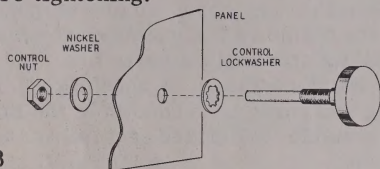
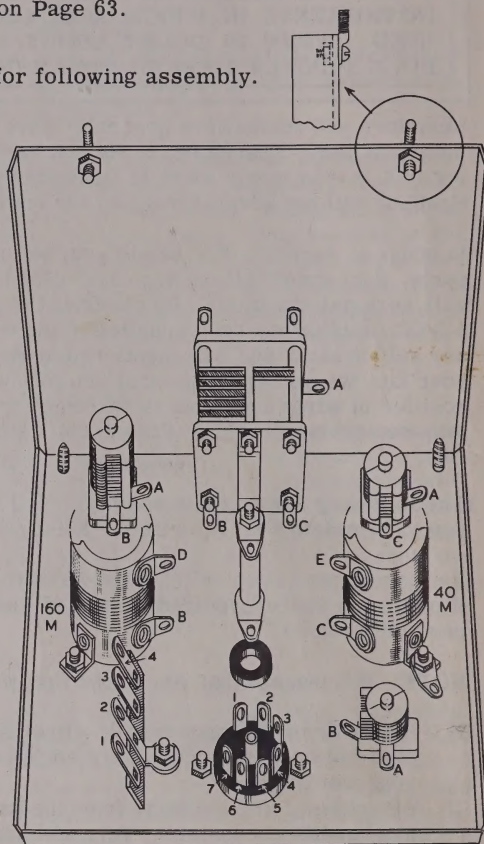
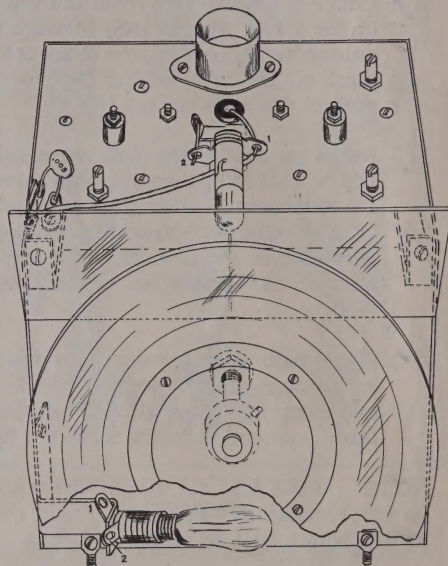

Figure 3
Figure 2
Figure 5
- (✓) Mount the differential tuning capacitor to the VFO sub-chassis as shown in Figure 2. Place a 3/8 lockwasher on the back of the chassis and a 3/8 flat washer and nut on the front. See Figure 3. Align the capacitor so the stator plates appear as shown in Figure 2 before tightening.
- (✓) Mount the 40 M coil 40-55 on the other side of the chassis in the same manner but using a solder lug on the rear bracket in place of the lockwasher. See Figure 2.
- (✓) Mount the 20 μ f trimmer capacitor in front of the 160 M coil. Position as shown in Figure 2 and secure using the 1/4" nut on top of the chassis.
- (✓) Mount a 9 μ f trimmer capacitor in front of the 40 M coil in the same manner. Position as shown in Figure 2.
- (✓) Mount a 9 μ f trimmer capacitor to the rear of the 40 M coil and position as shown in Figure 2.
- (✓) Referring to Figure 5, insert a 1 1/2" 6-32 screw through a solder lug, then through the dial light bracket and chassis top. Position the dial light and solder lug as shown. On the underside of the chassis, slip a solder lug, a 1 1/8" spacer, another solder lug and a 6-32 nut over the protruding screw. Position the solder lugs as shown in Figure 2 and tighten.
- (✓) Mount the 7-pin shielded ceramic tube socket with the pins positioned as shown in Figure 2 using 3-48 screws and nuts.
- (✓) Mount a 4-lug terminal strip as shown in Figure 2 using a lockwasher under the nut.
- (✓) Connect a tinned bare wire from point A on the 20 μf trimmer capacitor (S) to point A on the differential tuning capacitor (NS).
- (✓) Connect a bare wire from point A on the differential tuning capacitor (S) to point A on the front 9 μf trimmer capacitor (NS).
- (✓) Connect a bare wire from this point (S) through the solder lug on 40 M coil bracket (NS) to point A on the rear 9 μf trimmer capacitor (NS).
- (✓) Connect a bare wire from the solder lug on the 40 M coil bracket (S) through the solder lug at the base of the 1 1/8" spacer (NS) to the #2 terminal (see Figure 2) of the 4-lug terminal strip (NS).
- (✓) Connect a bare wire from the top solder lug on the 1 1/8" spacer (NS) through the bottom solder lug (S), over to the tube socket through pin 3 on the tube socket (NS) to the center post of the tube socket (NS).
- (✓) Run a bare wire through terminal B of the 160 M coil (NS) then through terminal B of the differential capacitor to point B of the 20 μf trimmer capacitor. Solder the connections on the two capacitors and make a mechanical connection at the coil terminal (NS).
- (✓) Run a bare wire through terminal C on the 40 M coil (NS) through terminal C on the differential capacitor to point C on the 9 μf trimmer capacitor. Solder the connections on the two capacitors and allow 3" of bare wire to protrude from the rear of the coil terminal for later connection to the switch. See Pictorial 1.
- (✓) Mount the light shield to the top of the VFO chassis, using #6 sheet metal screws as shown in Figure 5. Include a single-lug terminal strip and solder lug on the right side as shown.
- (✓) Connect a black wire from terminal 1 of the pilot lamp socket (S) to the insulated lug of the 1-lug terminal strip (NS).
- (✓) Connect a .005 μ fd disc ceramic capacitor from the same terminal (NS) to the adjacent solder lug (S).
- (✓) Mount two 6-32 spade screws to the bottom flange of the chassis as shown in Figure 2, using lockwashers under the nuts.